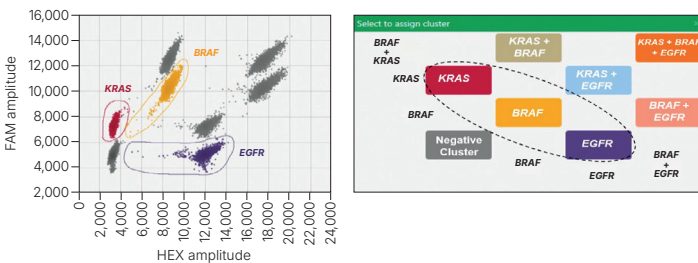

Fig. 23. Thresholding the Total Quant Assay single-positive clusters.
- From the tool bar, choose the appropriate threshold cluster mode button. Use the threshold function to define single-positive clusters (*KRAS*, *BRAF*, *EGFR*), as illustrated in Figure 23. In this example, the threshold cluster freeform button (previously shown in Figure 14) is used. The *KRAS* threshold should include the FAM (Ch1) cluster just above the negative cluster and any upward spray in FAM (Ch1). The *EGFR* threshold should extend in the HEX (Ch2) direction from the negative cluster and include the HEX (Ch2) cluster. The *BRAF* threshold should also include any spray between the negative cluster and the *BRAF* single-positive cluster in FAM/HEX (Ch1/Ch2).